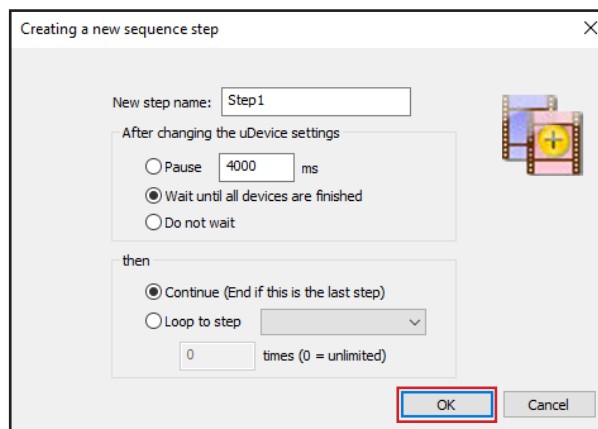

Fig. 15
- 3) Modify the step name and continuation settings if desired, then click **OK** (Fig. 15).